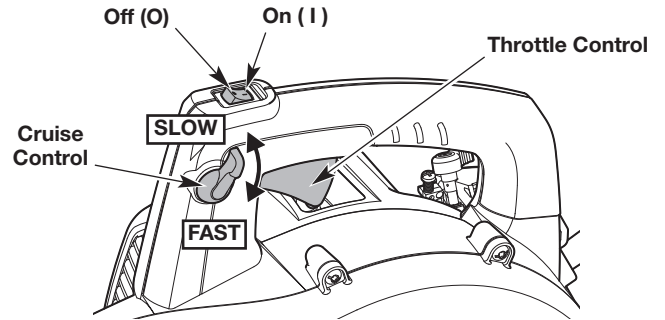

Fig. 3
**NOTE:** There is no need to turn the unit on. The On/Off switch is in the ON (1) position at all times (Fig. 3).
4. Move the cruise control to the **SLOW** position (Fig. 3).
**NOTE:** Keep the cruise control in the **SLOW** position and **DO NOT** squeeze the throttle control until step 9 (Fig. 3).
8. **DO NOT** squeeze the throttle control. Idle the engine for 5 to 10 seconds. If the unit stops during this time, squeeze and hold the throttle control or move the cruise control to the **FAST** position (Fig. 3), then pull the starter rope in a controlled and steady motion until the unit starts.
9. Squeeze and hold the throttle control or move the cruise control to the **FAST** position (Fig. 3). Allow the engine to warm up for 30 to 60 seconds.
2. Press and hold the On/Off switch in the **OFF (O)** position until the engine comes to a complete stop (Fig. 3).
- Use the cruise control to make continuous operation easier (Fig. 3).